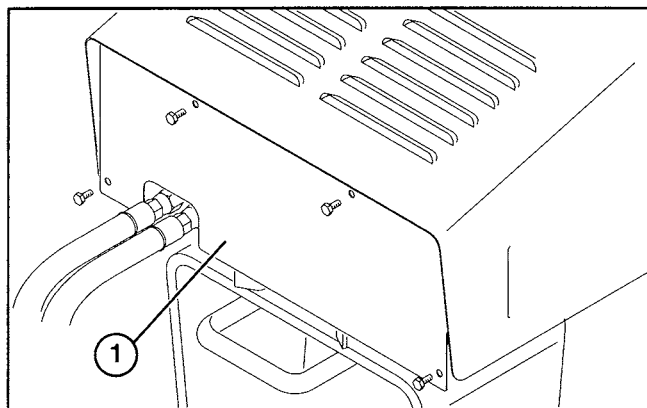

Figure 15
LUBRICATION (Fig. 15)
1. Remove (4) screws securing front panel to frame (Fig. 15). Locate grease fitting thru opening in frame.